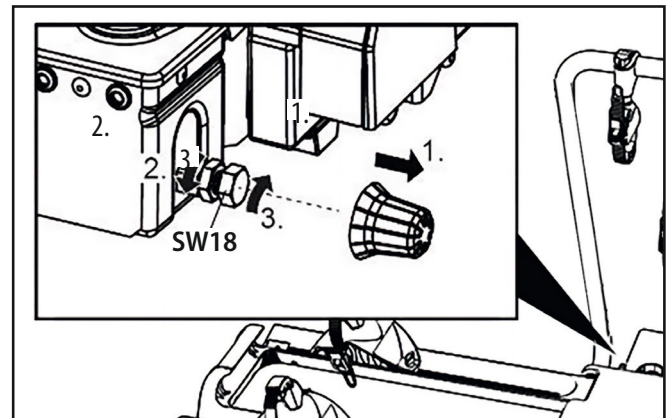

Fig. 13: Adjusting the quick-release fastener
- Slightly loosen the lock nut (Fig. 13).
- Turn the adjusting screw in a quarter of a turn (Fig. 13).
Place the tensioning straps of the wheel brackets around the rim of the wheel and insert the tensioning strap into the fastener. Tighten the tensioning strap, Fig. 13, and secure the front wheel with a short tensioning strap